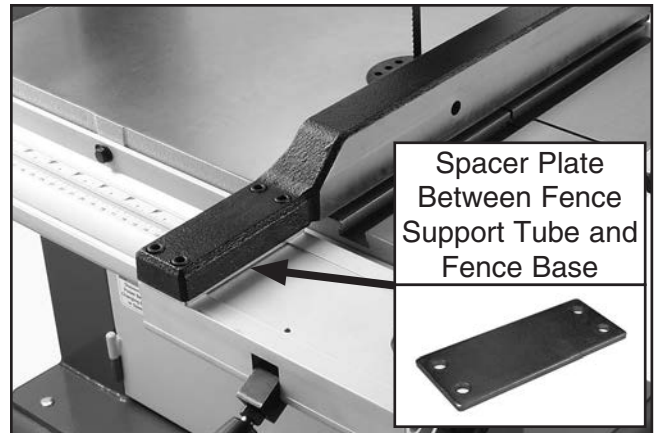

Figure 2. New fence support tube installed.
2. Install the fence support tube on the fence base with the spacer plate between the them, as shown in **Figure 2**.